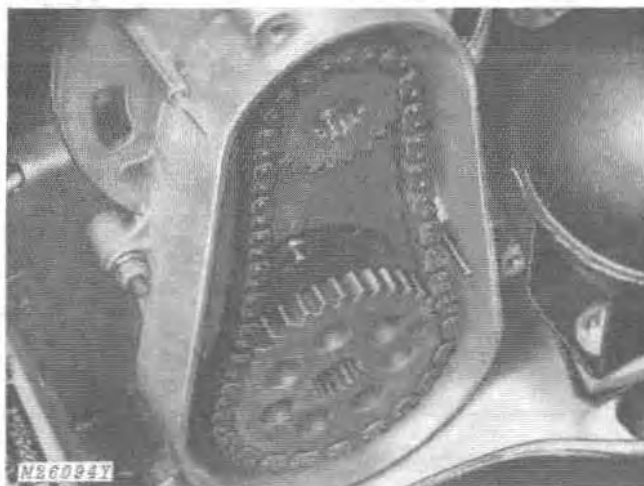

Fig. 4-Drive Chain and Sprockets
2. Install sprockets and chain as an assembly, Fig. 4.